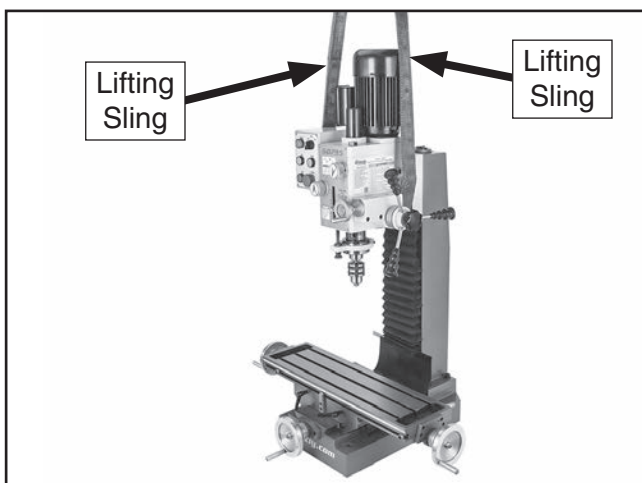

Figure 7. Recommended lifting sling position around headstock.
4. Position a lifting sling under headstock, as shown in **Figure 7**. Connect sling ends to a forklift, then place machine on workbench.